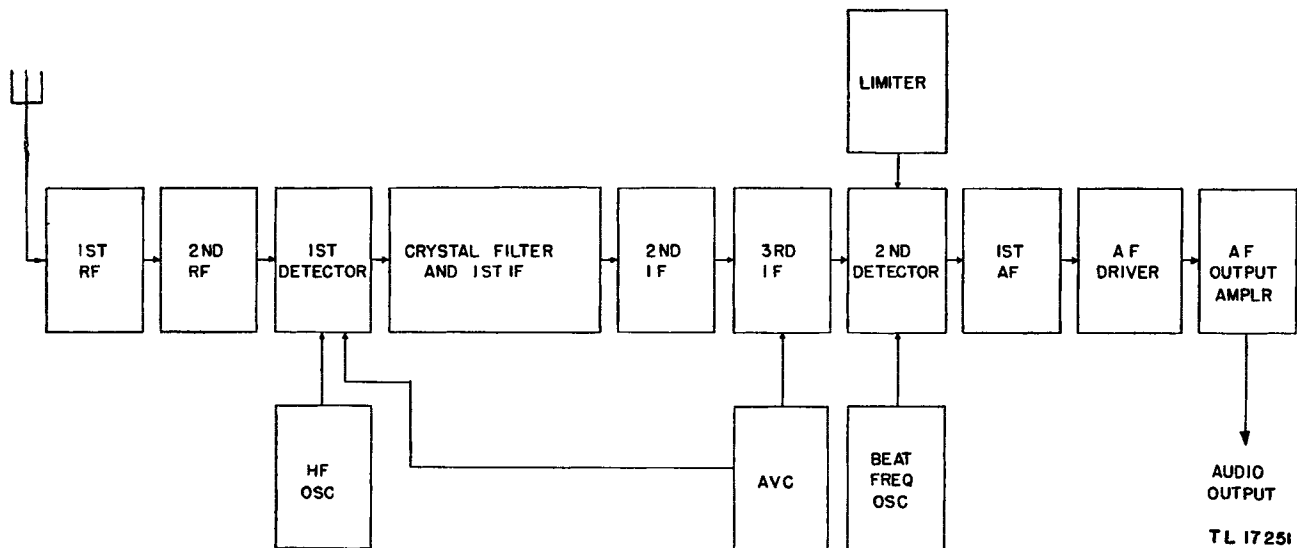

Figure 3. Radio Receiver BC-779-B, block diagram.
## 2. Over-all System Function (fig. 3)
*a.* GENERAL. The receiver uses a superheterodyne or double detection type of circuit for reception of modulated and continuous-wave a-m signals. The over-all system function may be understood by reference to figure 3.